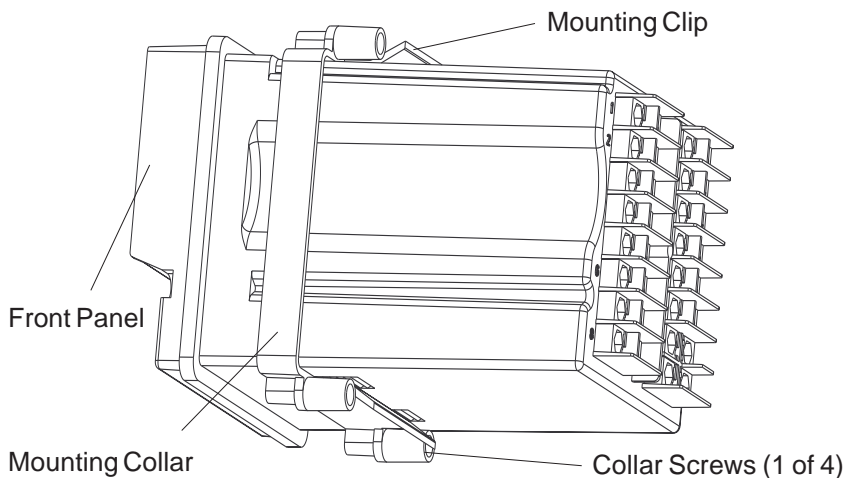

Figure 3.2
5. Slide the mounting collar over the back of the case, as shown in Figure 3.2. The collar clip edges will lock with matching edges on the controller case.